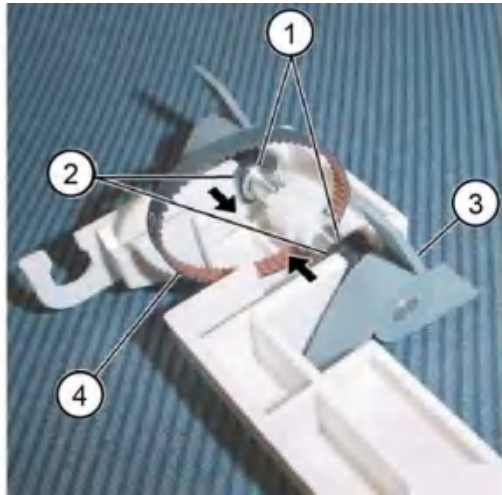

Figure 8 Rear paddle belt removal
10. Remove the paddle belt, Figure 8:
- a. Remove two E-clips (1).
- b. Move the two bearings (2) in the direction of the arrow.
- c. Remove the sub paddle shaft assembly (3).
- d. Remove the rear paddle belt (4).